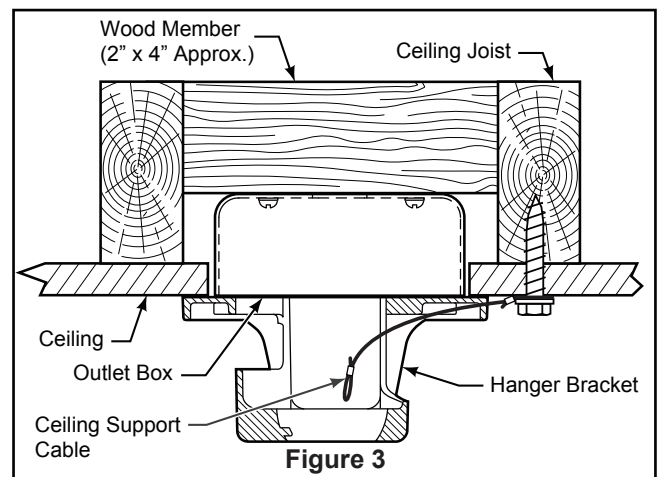

Figure 3
- 2. Slide the receiver into the hanger bracket before wiring as shown in figure 3.